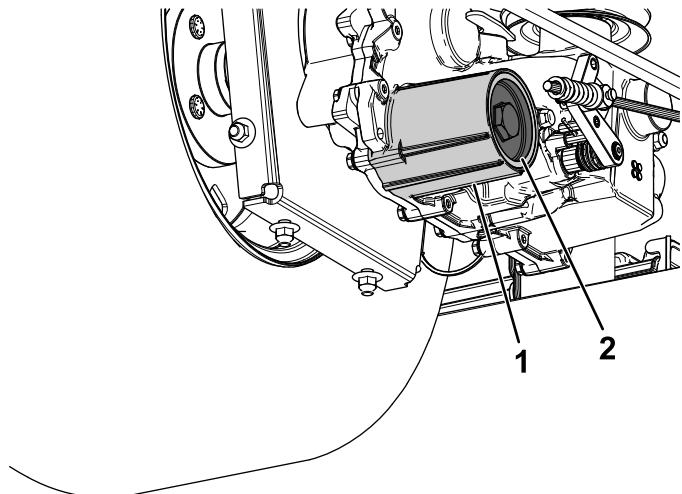

Figure 94
- Remove the hydraulic-fluid filter cover from the transaxle to drain the fluid (Figure 94).